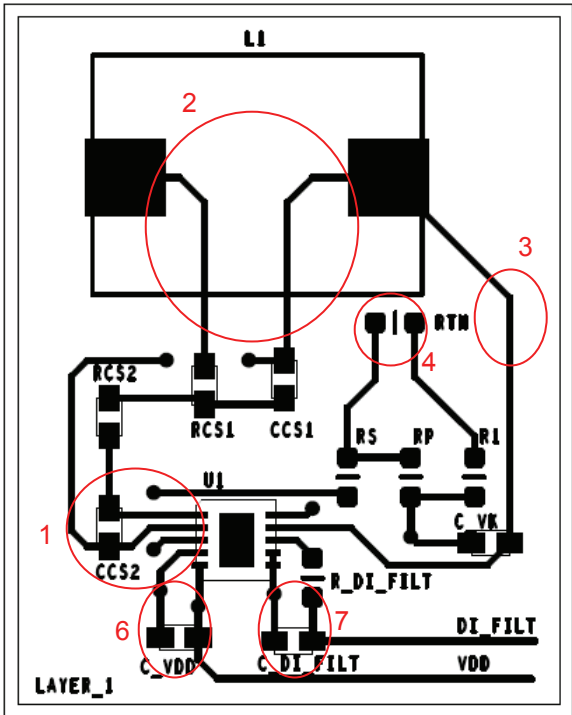

Figure 8 Layer 1
6. Bypass IC VDD pin 5 to GND pin 4 with a high quality 0.1 μ F ceramic capacitor. Refer to area #6 of figure 8.
7. Bypass the IC VK pin to GND with a high quality 0.1 μ F ceramic capacitor. Refer to area #7 of figure 8.